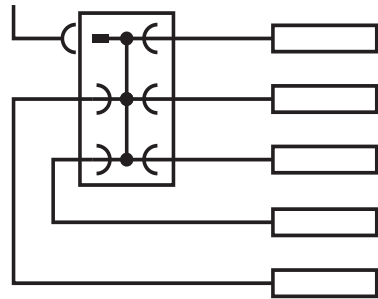
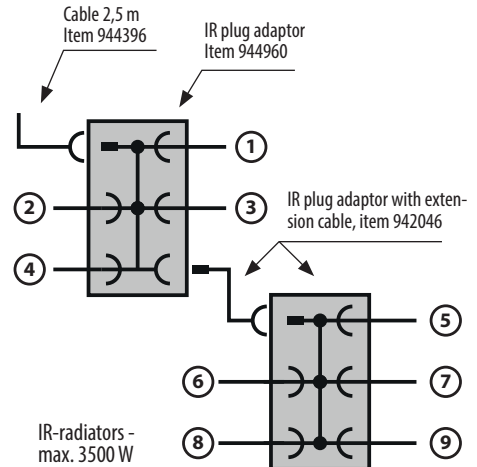

Fig. 2
Fig. 2b
By connection of several IR radiators to one common line an optional plug adaptor (item 94.2046) should be used (fig. 2). Up to 2 such plug adaptors can be connected to each other (fig. 2b).
Up to 9 radiators can be connected (up to max. 3500 W) with two interconnected plug-in modules (Fig. 2b).